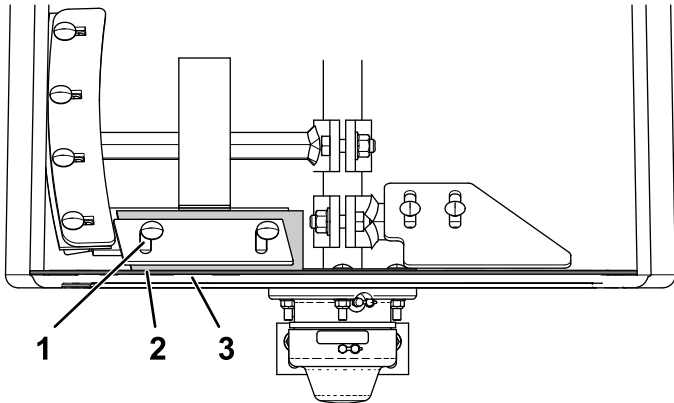

Figure 74
4. Loosen the carriage bolts and flanged locknuts that secure the paddle blade and wiper to the fixed paddle. (Figure 74)